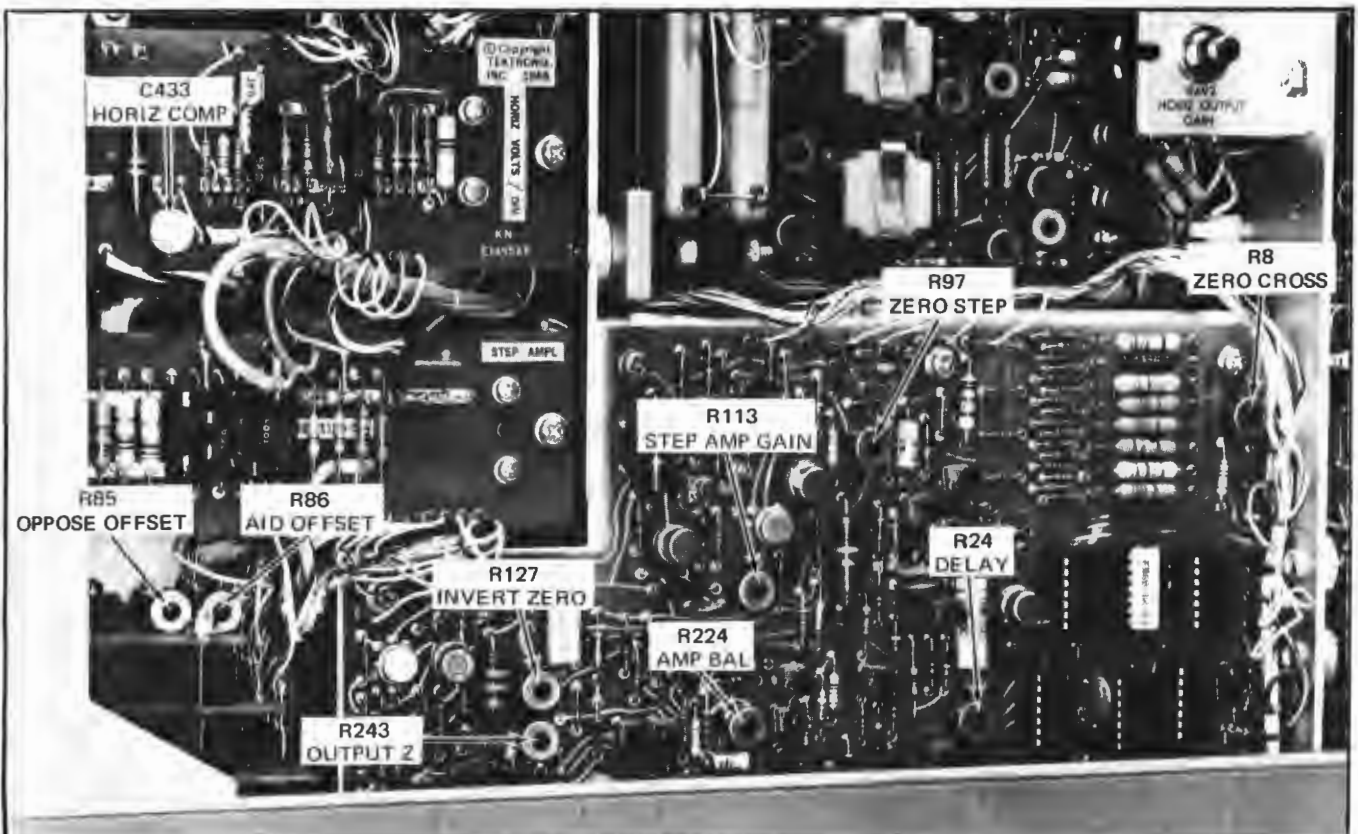

Fig. 1-7. STEP GEN, STEP GEN OFFSET and HORIZ VOLTS/DIV circuit boards: Location of adjustments in steps 11 through 15.
g. Turn C433, HORIZ COMP adjustment, on the HORIZ VOLTS/DIV circuit board (see Fig. 1-7) through-out its range.
d. ADJUST—R8, ZERO CROSS adjustment, on the STEP GEN circuit board (see Fig. 1-7) if the display is not correct.
h. ADJUST—R24, DELAY adjustment, on the STEP GEN circuit board (see Fig. 1-7) if the steps do not occur at the peak of the collector supply output.
d. ADJUST—R224, AMP BAL adjustment, on the STEP GEN circuit board (see Fig. 1-7) if the spot is not centered.
g. ADJUST—R97, ZERO STEP adjustment, on the STEP GEN circuit board (see Fig. 1-7) if the display is not centered.
l. ADJUST—R127, INVERT ZERO adjustment, on the STEP GEN circuit board (see Fig. 1-7) if the spot is not centered.
e. ADJUST—R113, STEP AMP GAIN adjustment, on the STEP GEN circuit board (see Fig. 1-7) if the spot is not centered.
h. ADJUST—R86, AID OFFSET adjustment, on the STEP GEN OFFSET circuit board (see Fig. 1-7) if the spot is not centered.
k. ADJUST—R85, OPPOSE OFFSET adjustment on the STEP GEN circuit board (see Fig. 1-7) if the spot is not centered.
h. ADJUST—R243, OUTPUT Z adjustment, on the STEP GEN circuit board (see Fig. 1-7) if the spot is not centered.